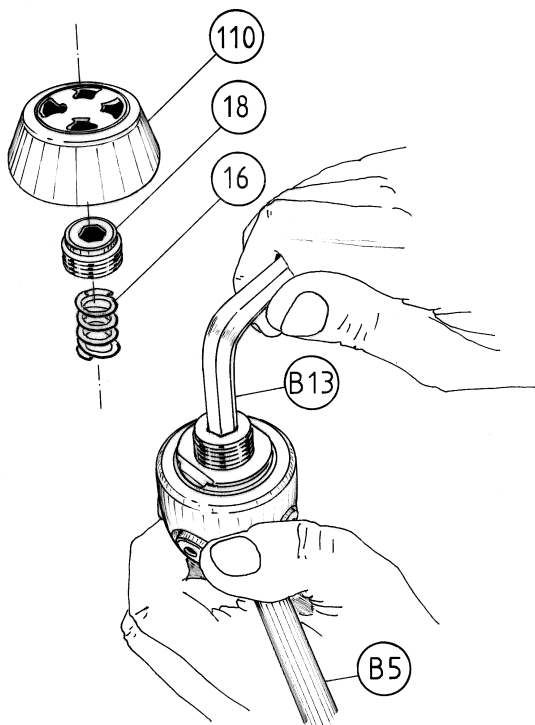

FIG. 4
- 12. Remove the poppet seat (75) from the 1st Stage body and remove the O-Ring(74).
- 13. Using the 10-mm hex wrench (B-13) back off the adjusting nut (18) and remove the spring (16). (Fig. 4)